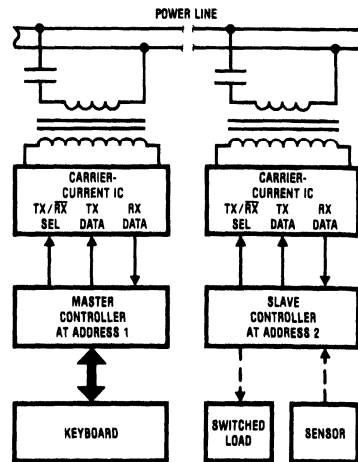

FIGURE 3. The block diagram of a carrier-current system using the BI-Line chip to interface digital controllers via the power line
The BI-LINE™ chip serves as a power line interface in the carrier-current transceiver (CCT) system of Figure 3. Figure 4 shows the interface circuit now discussed. The controller may select either the transmit (TX) or receive (RX) mode. Serial data from the controller is used to generate a FSK-modulated 50 to 300 kHz carrier on the line in the TX mode. In the RX mode line signal passes through the coupling transformer into the PLL-based receiver. The recreated serial bit stream drives the controller.